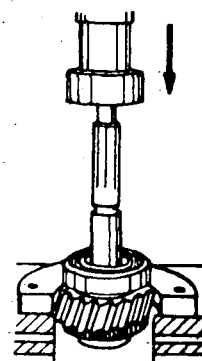

Fig. 8
- b) Remove the bearing from the shaft by using an extractor (fig. 8) and remove the oil deflector.